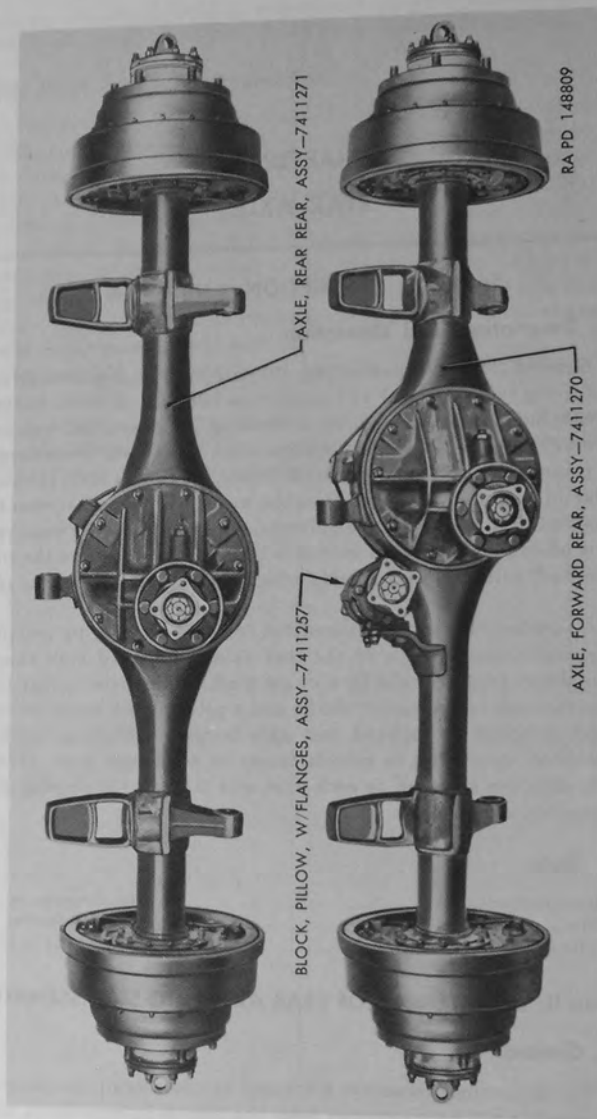

Figure 131. General view of rear axles.
a. General.—Both rear axles (fig. 131) are hypoid, single-reduction, full-floating type equipped with banjo type housing. Differential and carrier is mounted as an assembly in housing. Forward rear axle and rear rear axle are mounted in tandem with upper and lower torque rods connecting each axle to vehicle frame. The two rear axles are similar in design and construction, the major difference between the two is that the opening for the differential carrier in the forward rear axle is off-center. Forward rear axle housing also supports the propeller shaft pillow block assembly which transmits drive to rear rear axle.